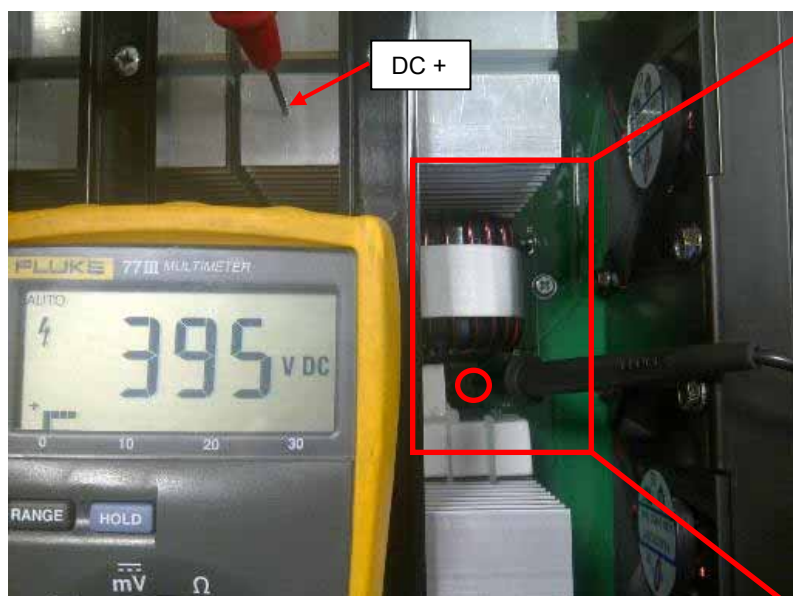

Figure 1
13. Locate the two points **DC+** (on input bridge heat sink) and **DC -** (test point on printed circuit) on the Main Board. **See Figure 1 and 1A**
17. Use electrically insulate gloves and insulated pliers. Hold the body of the resistor and connect the resistor leads across the two points DC+ and DC -. **See Figure 1 and 1A**. Hold the resistor in place for 10 seconds. DO NOT TOUCH CAPACITOR TERMINALS WITH YOUR BARE HANDS.